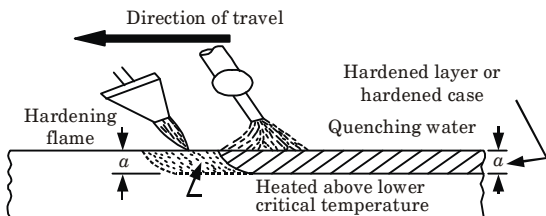

Fig. 4.19.2. Flame hardening.
3. The torch for heating the work may be stationary or may move progressively over the work which may or may not spin as shown in (Fig. 4.19.2).